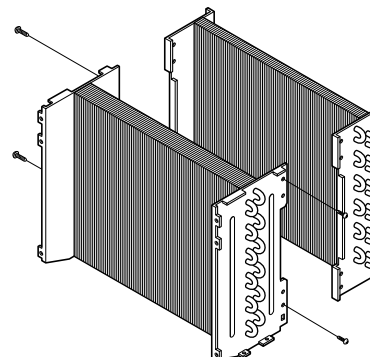

Figure 21
2. After discharging the refrigerant completely, unbrace the connecting pipes of capillary assembly and pulling them outward. (See Figure 21)